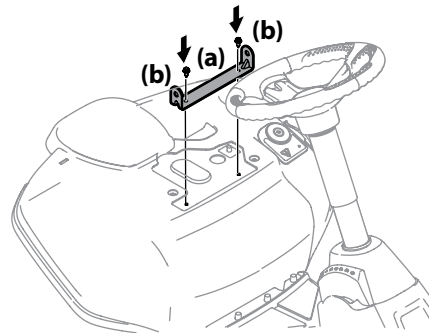

Figure 2-6
- Align the seat bracket (a) in place over the holes from where the self-tapping bolts (b) were removed, as shown in Figure 2-6.
- Using a $\frac{1}{4}$ " drive ratchet with a $\frac{3}{8}$ " socket, secure the seat bracket (a) with the self-tapping bolts (b) removed in step 2. See Figure 2-6.